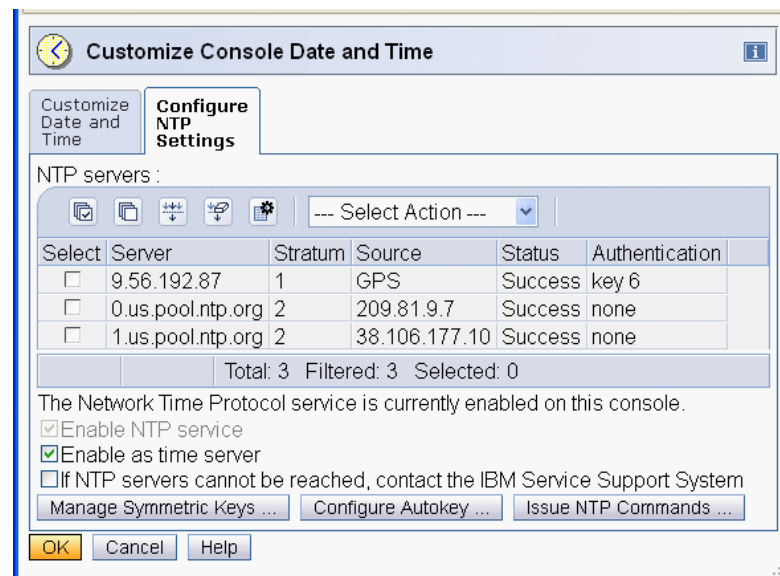

Figure 1-20 Enable HMC as time server
1. Check the **Enable as time server** check box (Figure 1-20).